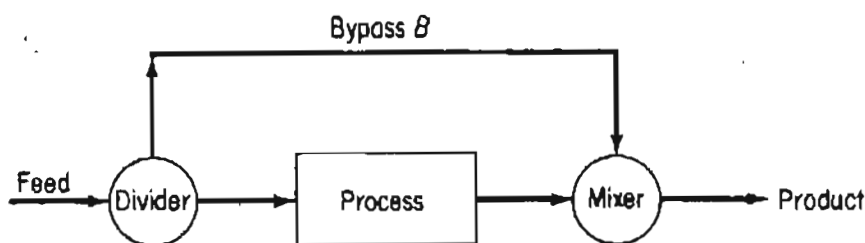

Figure 12.10 A process with a bypass stream.
Two additional commonly encountered types of process streams are shown in Figures 12.10 and 12.11.
- a. A **bypass** stream—a stream that skips one or more stages of the process and goes directly to another downstream stage (Figure 12.10).